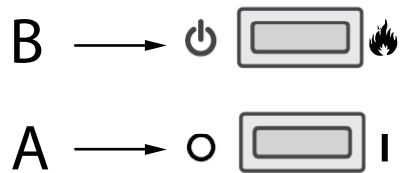

Fig.2
1. Press Switch 'A' to **(0)**. (See Fig.2)
8. Press Switch 'B' once to turn on flame effect. (See manual control section and Fig.2).
9. Press Switch 'A' to 'ON' (I) position. (See Fig.2)
2. Press Switch 'A' to the 'OFF' (0) position (See Fig.2)
9. Press Switch 'A' to the 'ON' (I) position (See Fig.2).